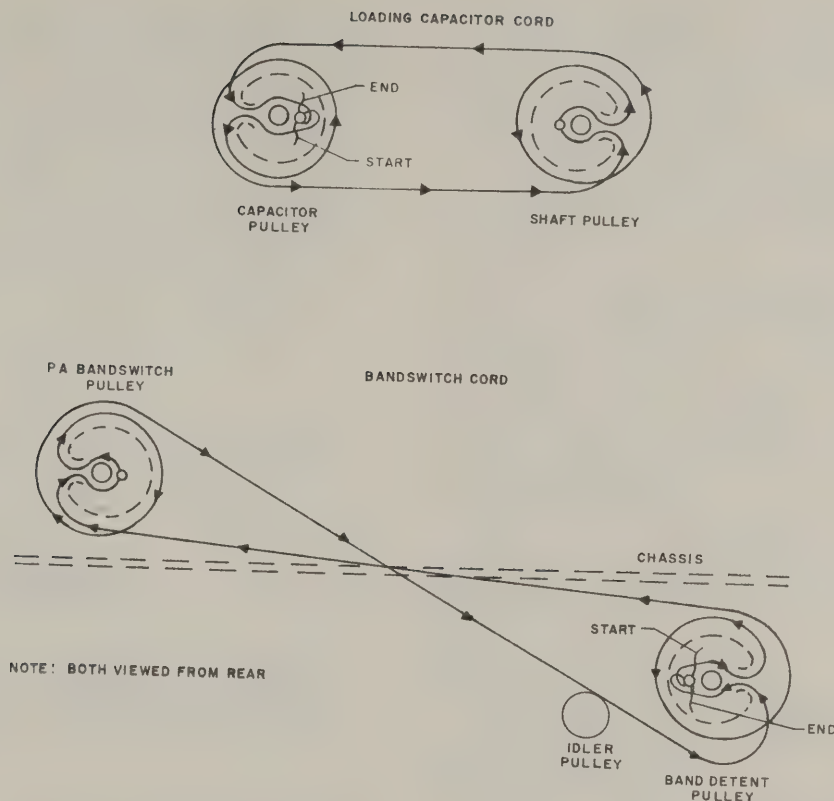

Figure 4-3. Dial Cord Stringing Diagram
d. String the cord according to the appropriate part of figure 4-3. Make sure the cord turns do not overlap on the pulleys. Pull the cord tight, and tie to the tab. Make sure a short piece of spaghetti is slipped over the plastic covered cord so that it acts as extra
4.7 Dial Cord Replacement. (Refer to figure 4-3.)
d. String the cord according to the appropriate part of figure 4-3. Make sure the cord turns do not overlap on the pulleys. Pull the cord tight, and tie to the tab. Make sure a short piece of spaghetti is slipped over the plastic covered cord so that it acts as extra insulation under the tab. This prevents rf currents from melting the plastic and shorting the wire core to ground. Mash the tab down to clamp the cord securely. Tighten the idler to bring the cord to tension.
f. Set BAND switch to 3.6 and tuning dial to 100. Adjust MIC GAIN and EXCITER TUNING for midscale grid current. Set METER switch to P.A. PLATE, and dip plate current. Reset METER switch to P.A. GRID. Peak the four (A)3.5 trimmer capacitors C101, C41, C52, and C69) for maximum grid current.